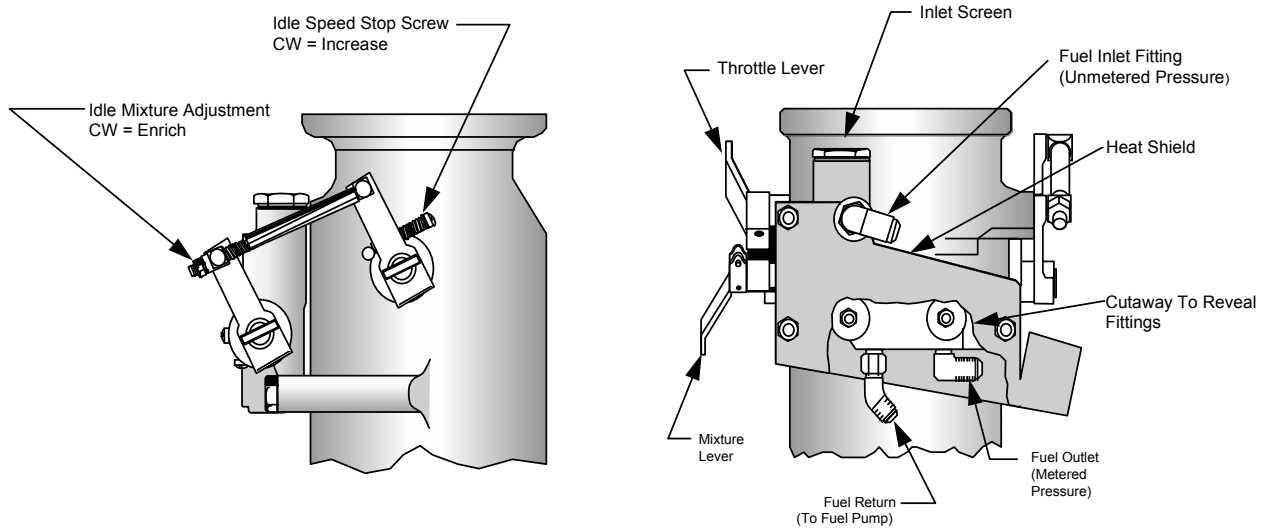

Figure 22-2
1. Locate the IDLE speed stop screw on the throttle body and turn it counter-clockwise two complete turns. See Figure 22-2. During fuel system adjustment, IDLE RPM will be controlled manually using the cockpit throttle control.